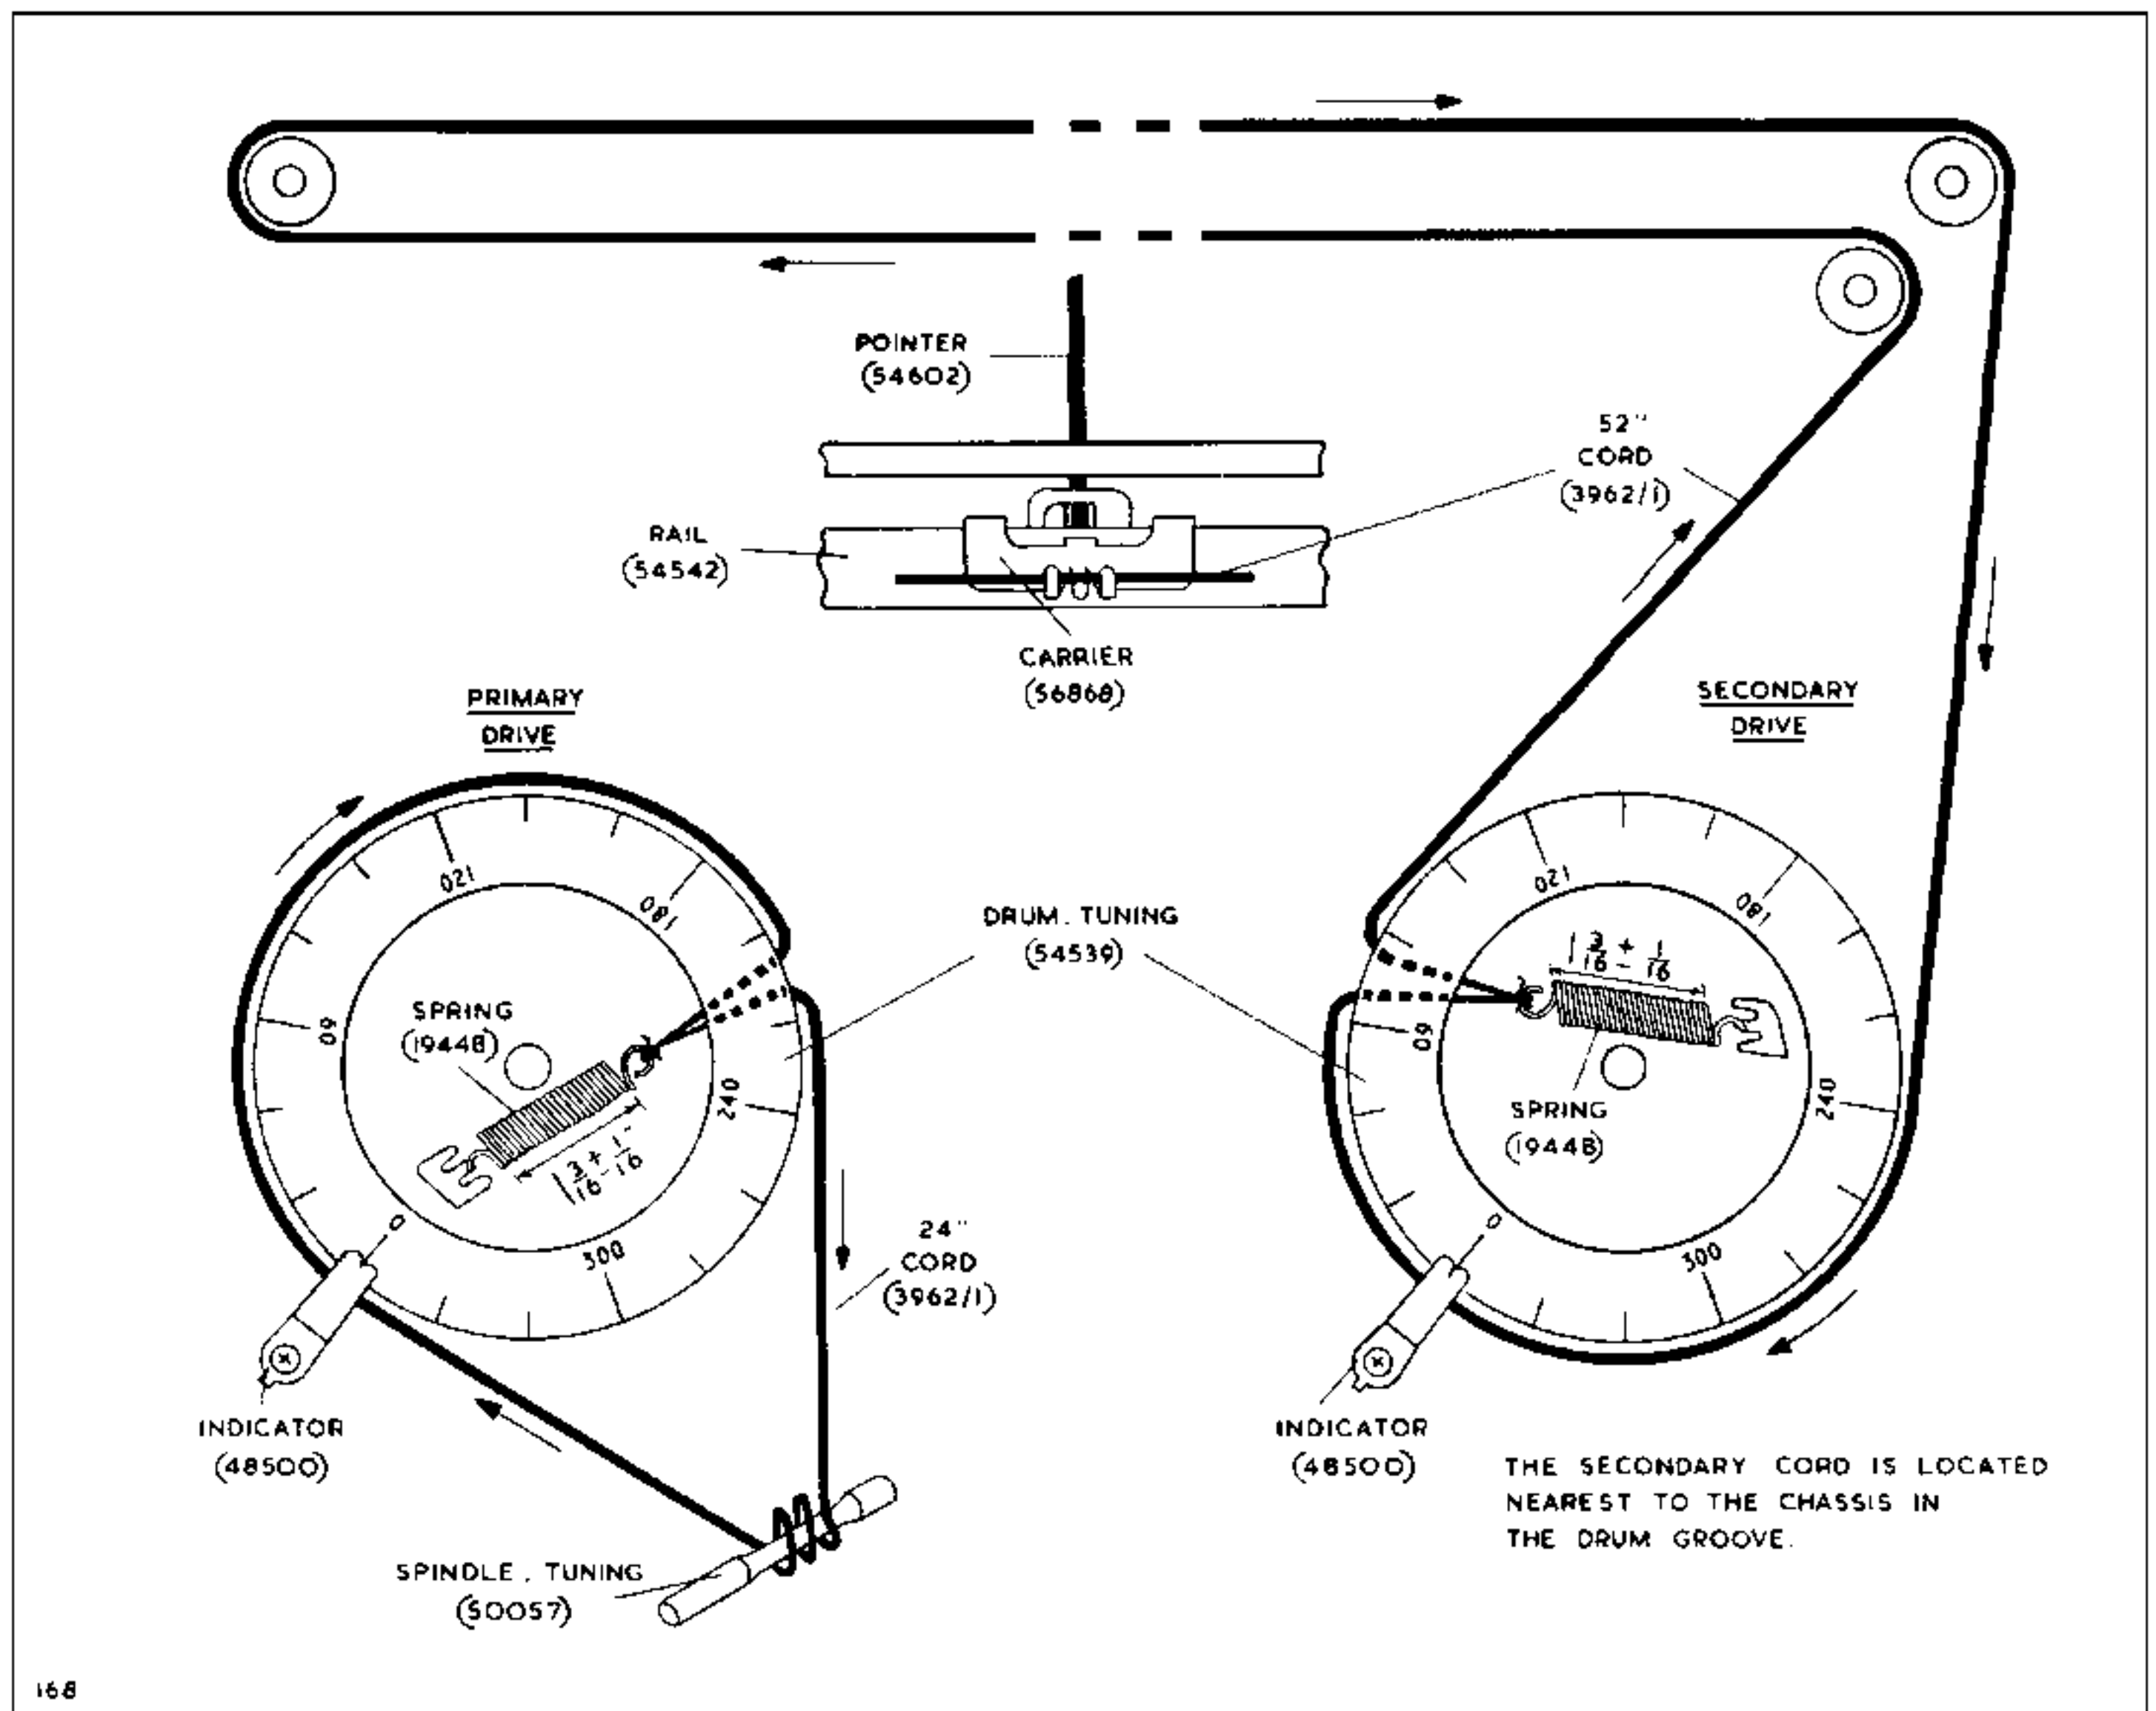

Fig. 4. The cord drives.
**General notes.** To gain access to the cord drives it is necessary to remove the chassis from the cabinet, as described in the Mechanical Notes on page 5. Replacement cords should be stretched before use and for maximum cord life the springs should be extended to  $1\frac{3}{16}$  in.  $\pm$   $\frac{1}{16}$  in. The arrangement of the drive cords is illustrated in Fig. 4.
**Fitting the primary cord.** Tie a 24 in. length of cord (3962/1) to the spring (19448) and hook the spring on to the drum, tuning (54539), as shown in Fig. 4. Thread the cord in the direction of the arrows, clockwise over the drum,  $2\frac{1}{2}$  turns clockwise round the tuning spindle, and back to the drum; of the two cords in the drum groove, this is the further one from the chassis. Pass the free end of the cord through the loop in the spring to which the other end is tied and pull it tight, extending the spring to  $1\frac{3}{16}$  in.  $\pm$   $\frac{1}{16}$  in.; tie the cord securely. Finally, operate the drive a few times through its
**Fitting the secondary cord.** Tie a 52 in. length of cord (3962/1) to the spring (19448) and hook the spring on to the drum, as shown in Fig. 4. Thread the cord in the direction of the arrows, clockwise round the drum, then round the pulleys and back to the drum; of the two cords in the drum groove this is the nearer to chassis. Pass the free end of the cord through the loop in the spring to which the other end is tied and pull it tight, extending the spring to  $1\frac{3}{16}$  in.  $\pm$   $\frac{1}{16}$  in.; tie the cord securely. Finally, operate the drive a few times through its full range and, if the spring extension is still within the limits specified, cut off the surplus cord.